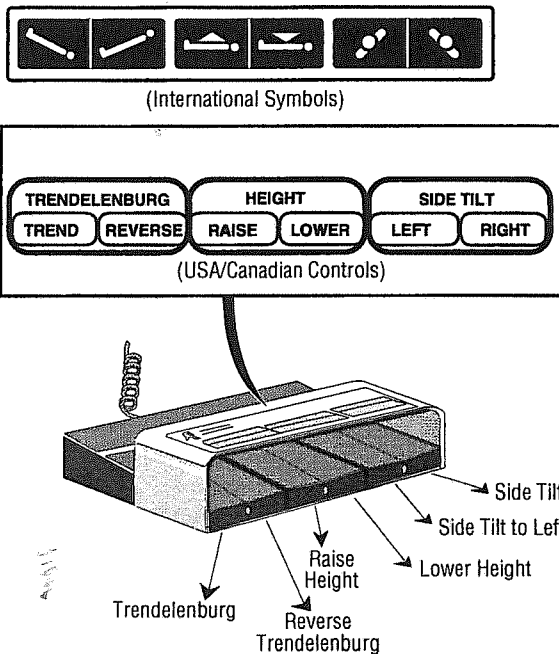

Figure 4-4. Foot Control
3. Adjust the tabletop position using the foot control positioning pedals, as follows (see Figure 4-4):
An optional foot control assembly is available for use in conjunction with the hand control. See Figure 4-4 for identification of foot control functions.